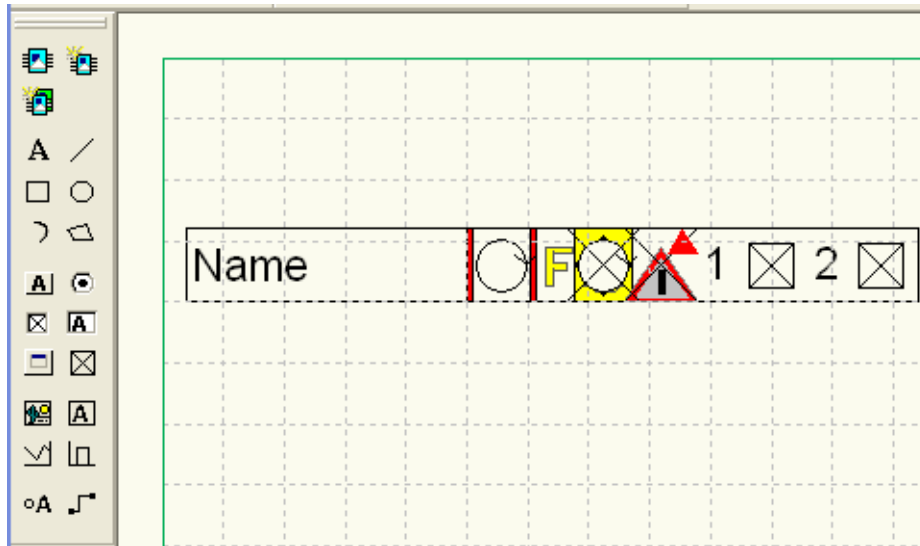

Figure 10. Graphical objects created in the CMD Editor.
- Graphical editor called CMD Editor (see Figure 10).
To open the CMD Editor, right-click the control module type  and select CMD Editor. Figure 10 shows part of the graphical editor (CMD Editor).